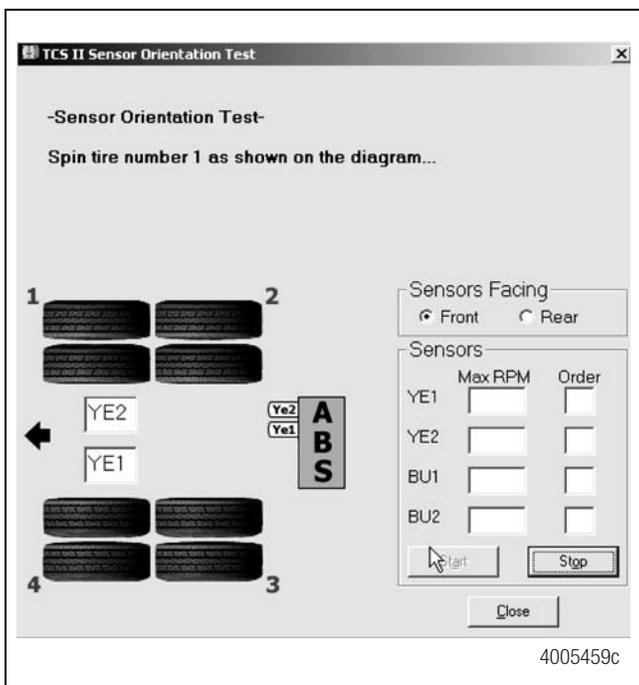

Figure 17
6. Click on **Start** to begin the test. Figure 17.